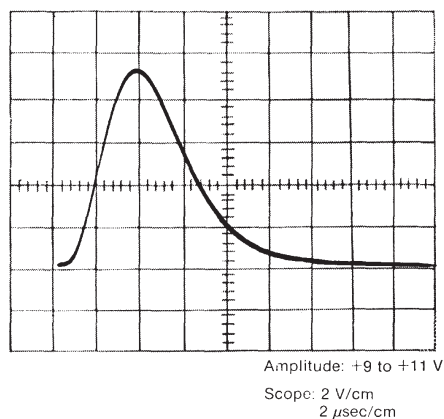

Figure 17 Amp Output Showing a Near Gaussian Shaped Pulse
1. Connect the AMP OUTPUT to the scope with RG-62 coax cable using a “tee” connector at the scope. You should observe the near-Gaussian shaped linear pulse shown in Figure 17.